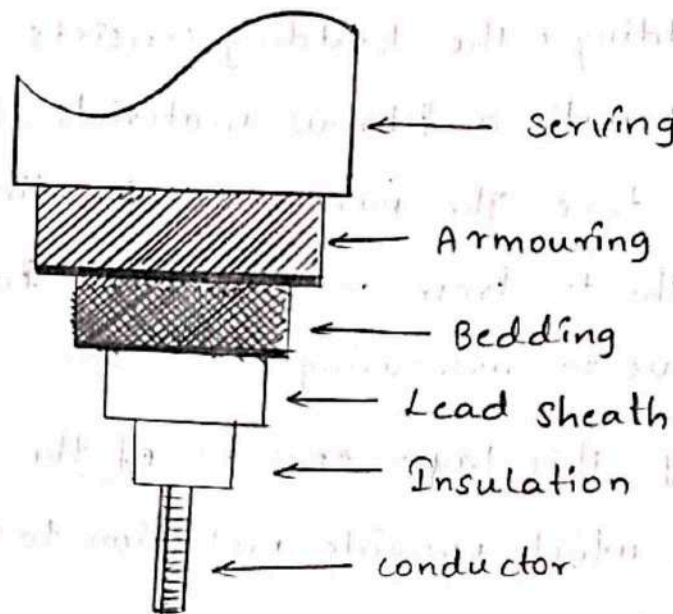

Fig. 8.12.1 General construction of a cable.
- * The fig. 8.12.1 shows the general construction of a cable. The cable shown is single conductor underground cable. Its various parts are,